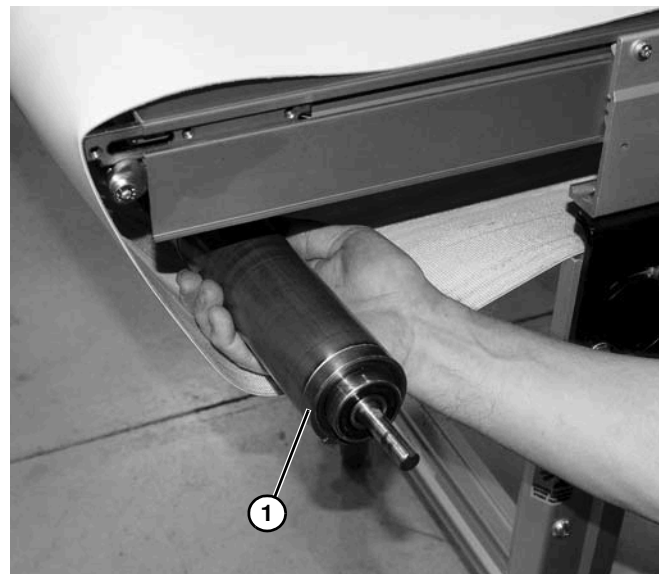

Figure 65
6. Slide the drive pulley (**Figure 65, item 1**) out of the belt loop.